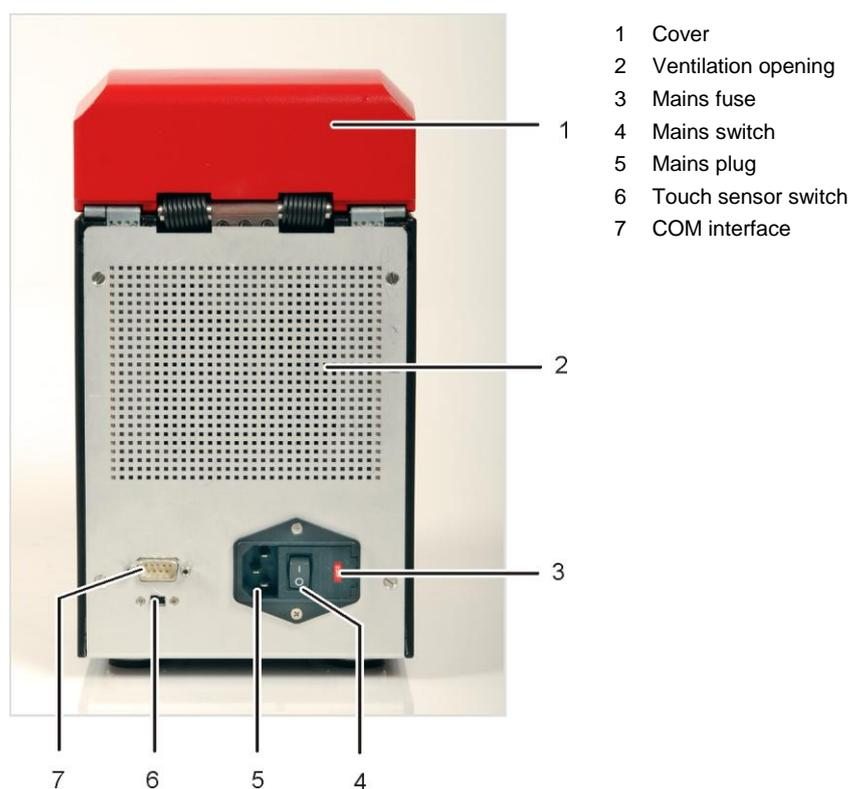

Fig. 3 Terminals at the back of the SpeedMill PLUS
- Move the switch (6 in Fig. 3 p. 12).